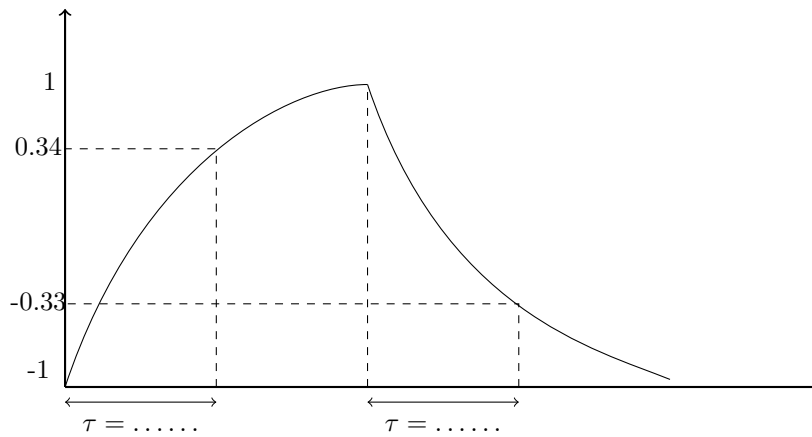

Figure 10: Time constant of an RC circuit.
2.4.2.6 From the simulated plot, enable Cursors and read the value of the time constant  $\tau$  for charging and discharging phase. Record the results in Fig.10. **[0.5 marks]**